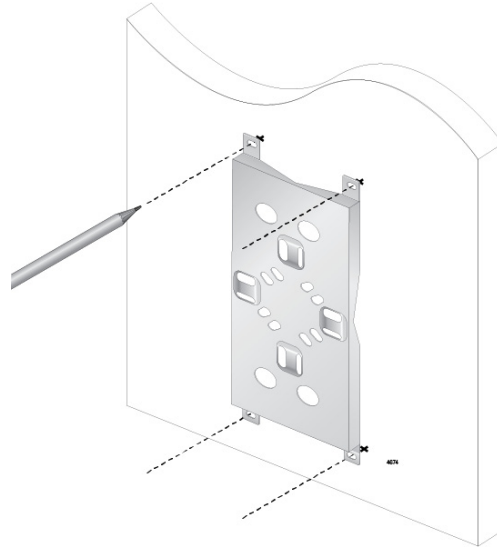

Figure 13. Mounting Base Hole Dimensions
- Using the mounting base as a template, mark four holes with a pencil. See Figure 13.